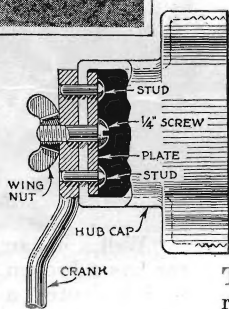

Fig. 1. By this arrangement the engine is used to pump up the air mattress
F. R. GORTON, of Ypsilanti, Mich., wins the \$10 prize this month for his suggestion of an air mattress inflating method (Fig. 1). Each month *POPULAR SCIENCE MONTHLY* awards \$10, in addition to regular space rates, to the reader sending in the best idea for motorists. Other published contributions will be paid for at the usual rates.